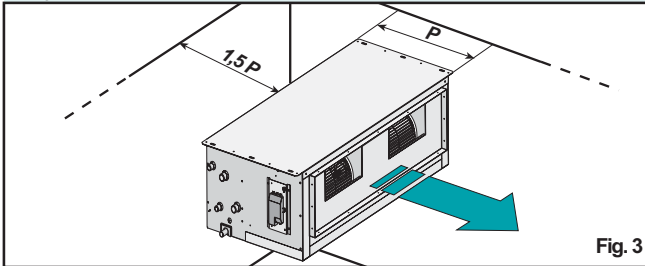

Fig. 3
- 1) the place of installation has sufficient space for carrying out installation as well as routine and extraordinary maintenance work (see fig. 3). If the unit is installed behind a suspended ceiling, an access should be provided;